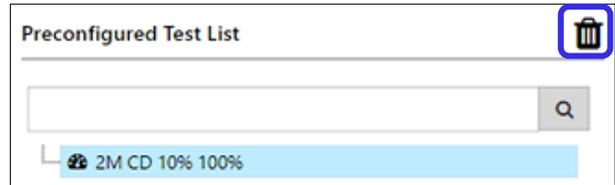

Figure 88: Delete Preconfigured Test
2. In the Preconfigured Test List (Figure 88), select the Preconfigured Test to delete.
3. Click the delete icon  (Figure 88).